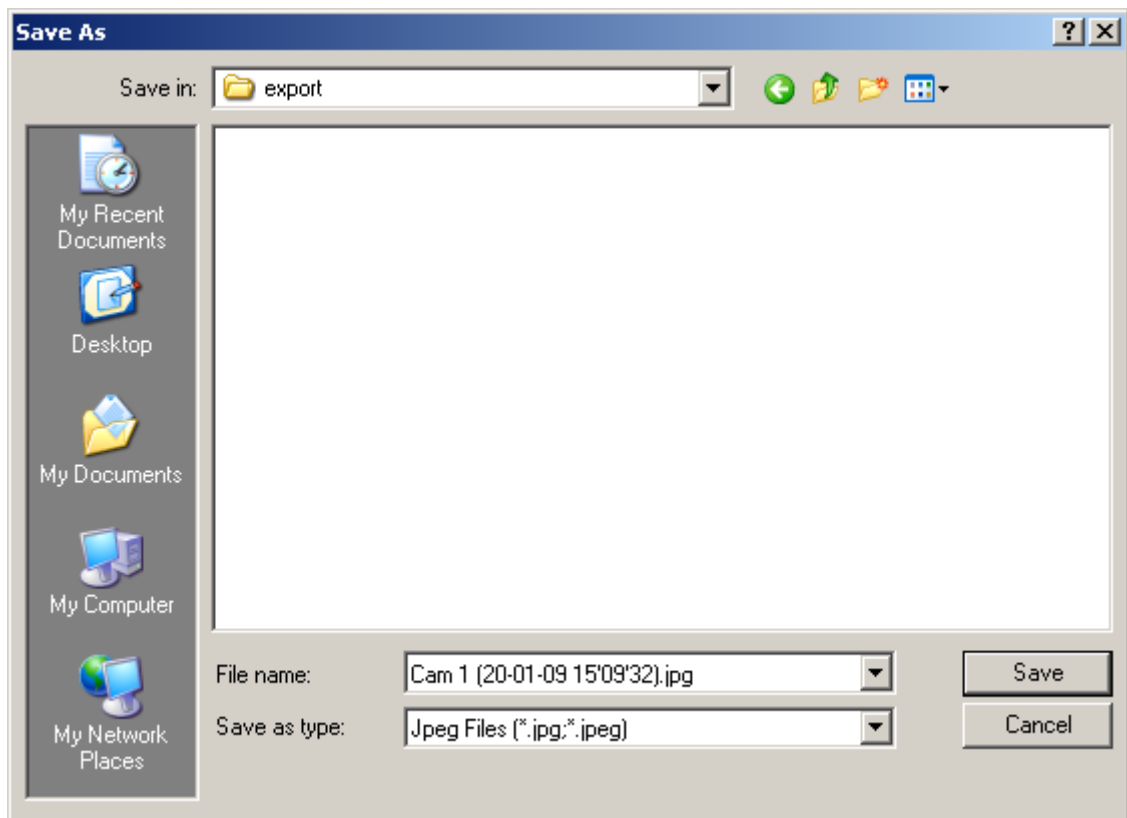

Figure 13.7.4-1
4. Click the Frame Export button. The Save As dialog box will open. Select the folder to save the frame to and click the Save button (Figure 13.7.4-1).